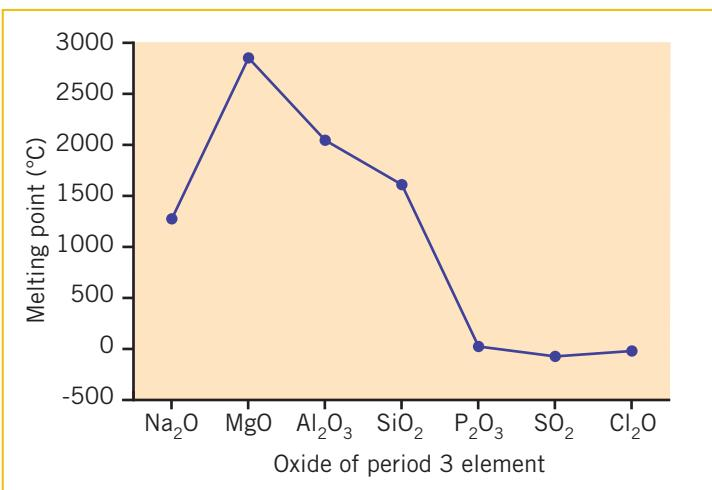

Figure 3.27
- 1 The trends in the melting points of oxides of the period 3 elements are shown in the graph in Figure 3.27.